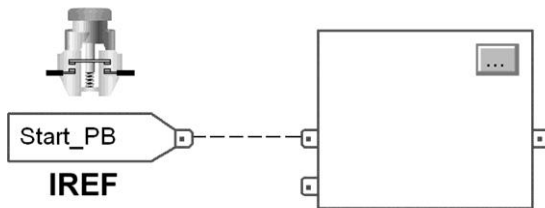

Figure 15-57 IREF for question 8.
8. With reference to Figure 15-57, if the pushbutton is momentarily actuated, the data in the IREF